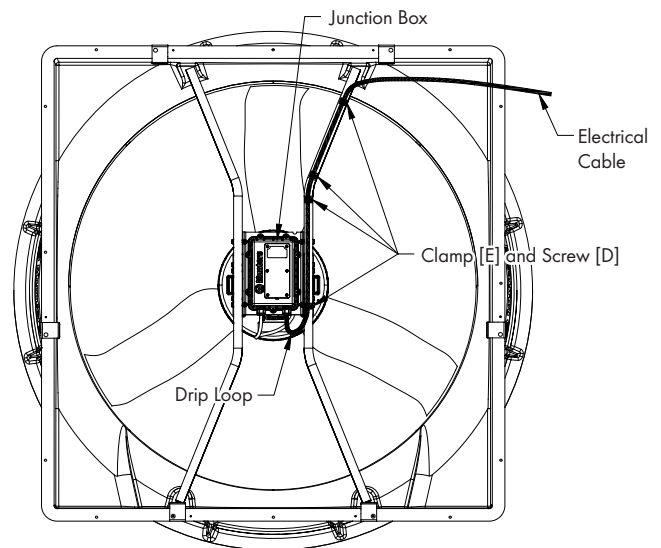

Figure 11
The Munters Drive MD Kit comes with a coil of electrical cable that is pre-wired to controller. Determine where the existing power for fan enters housing and route the cable up or down the left or right strut toward the existing power. Create a drip loop in bottom of cable and then fasten it to the strut using (4) Wire Clamps [E] and TEK Screws [D]. Attach new cable to existing power supply for fan. See Figure 11.